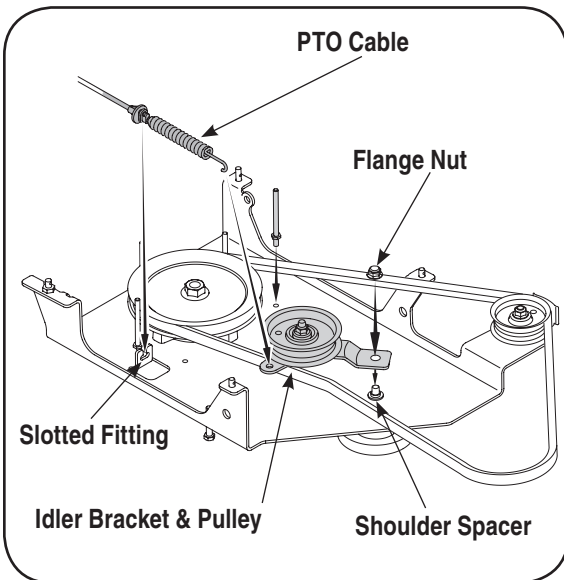

Figure 10
1. Remove the flange lock nut as pointed out in Figure 10, leaving the spacer beneath it in place.